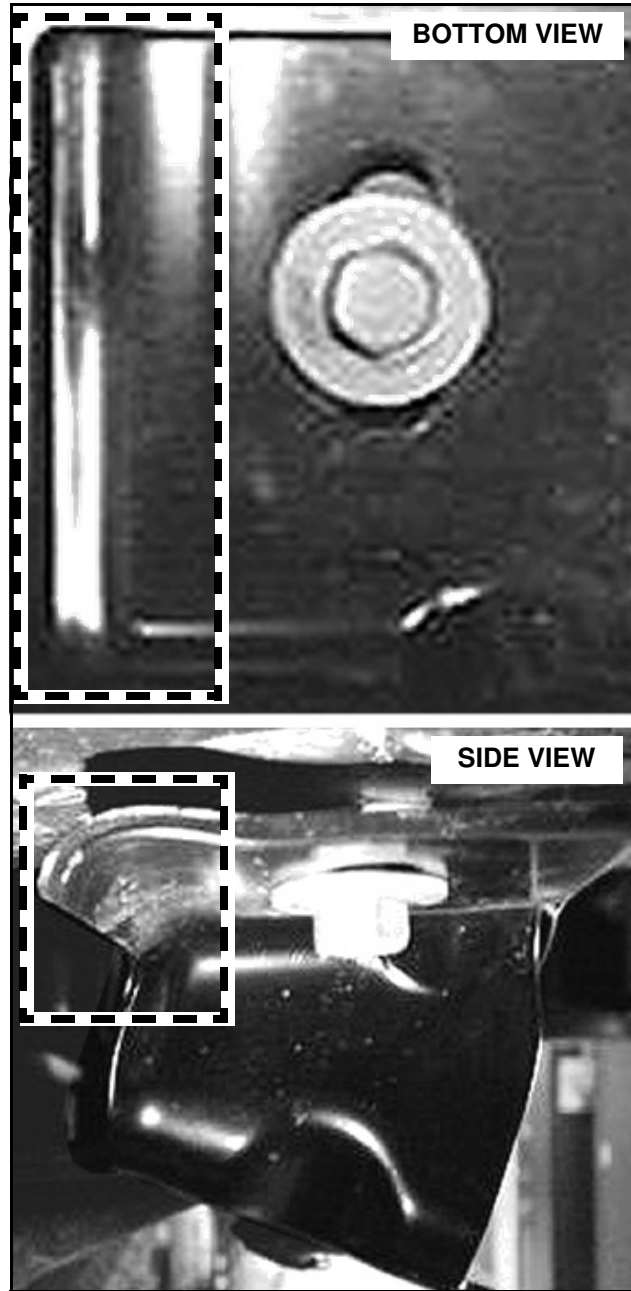

Figure 4
6. Grind the flange at the rear of the bracket away so the side weldments can sit flat against the bracket. Do this on both sides. (See Figure 4)